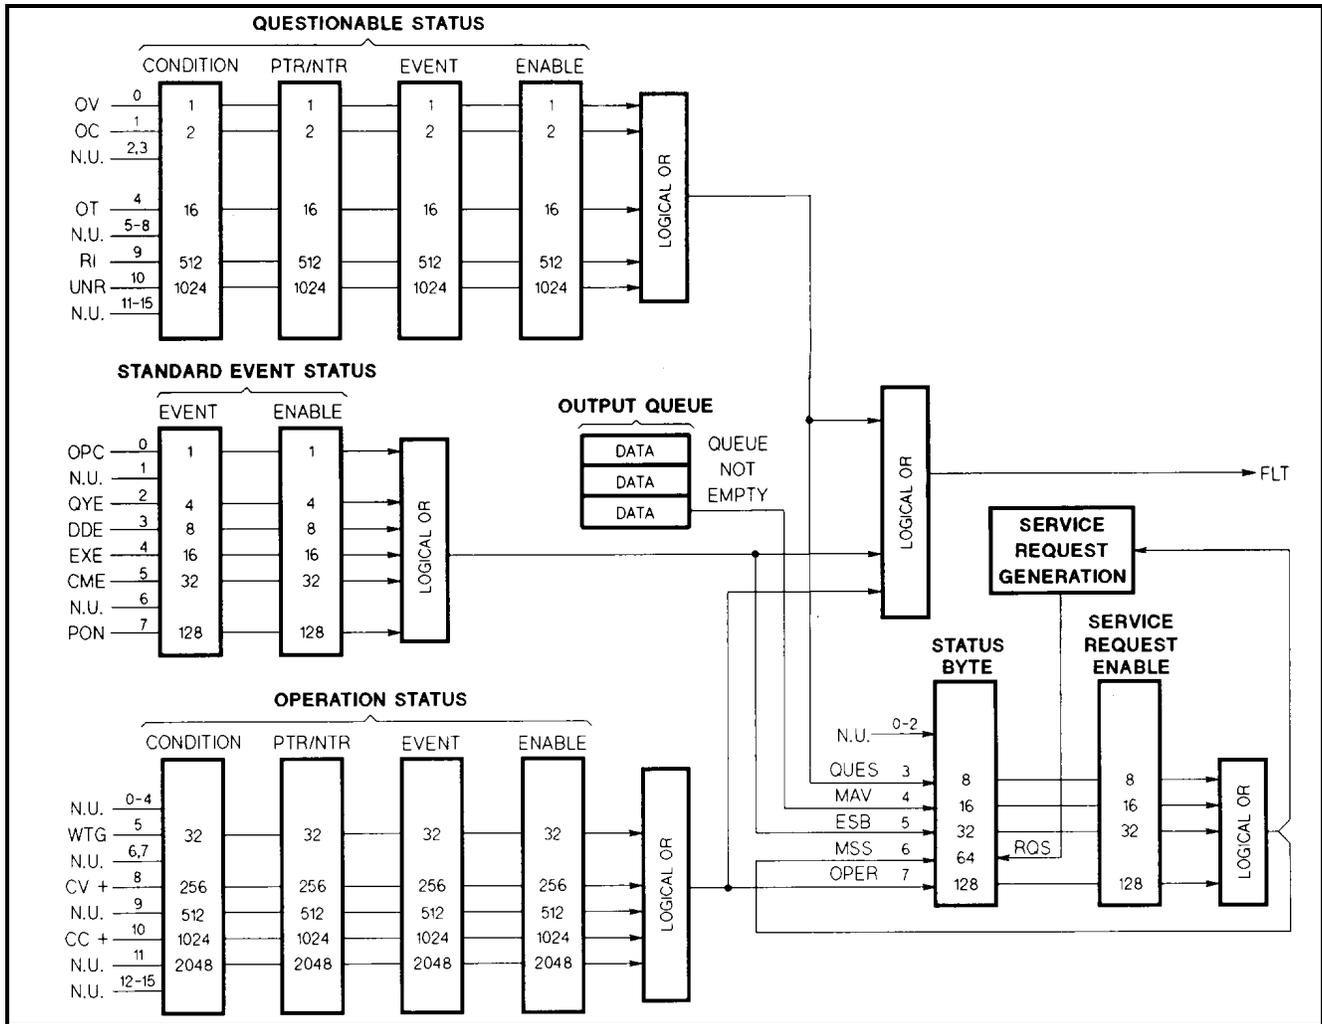

Figure C-4. Power Supply Status Structure
Figure C-4 shows the status structure of the power supply in SCPI mode. The Standard Event, Status Byte, Service Request Enable registers and the Output Queue perform standard GP-IB functions defined in the *IEEE 488.2 Standard Digital Interface for Programmable Instrumentation*. The Operation and Questionable Status registers implement the status reporting requirements of the power supply. Table C-5 shows the bit configuration of each status register.
Register Functions. The Questionable Status registers record signals that indicate abnormal operation of the power supply. As shown in Figure C-4, the group consists of a Condition register, PTR/NTR Filter, Event register, and Enable register.
Status Programming Examples. Table C-3 shows four examples that set the Questionable Status register group bits to enable specific conditions. Refer also to Figure C-4.
Register Functions. The Operation Status registers record signals that are part of the power supply's normal operation. As shown in Figure C-4, the group consists of a set of registers similar to the Questionable Status group. The output of the Operation Status group is logically-ORed into the OPER(ation) summary bit (7) of the Status Byte register.